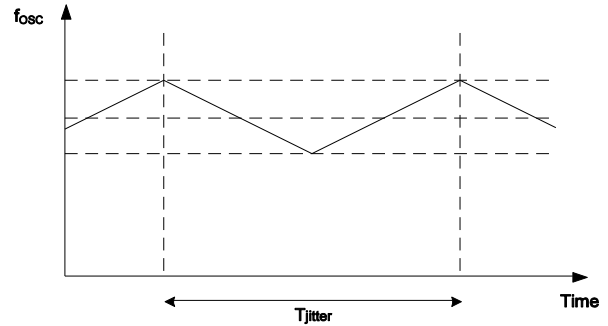

Figure 3: Frequency Jitter
A controlled current sourced (fixed at 2.72μA when $V_{FB} = 2V$) charges the internal C_{OSC} capacitor. Comparing the capacitor voltage to the TIMER voltage determines the switching frequency. Frequency jitter is accomplished by varying V_{TIMER} between 3.2V and 2.8V (see Figure 3). Determine T_{jitter} with Equation (1):